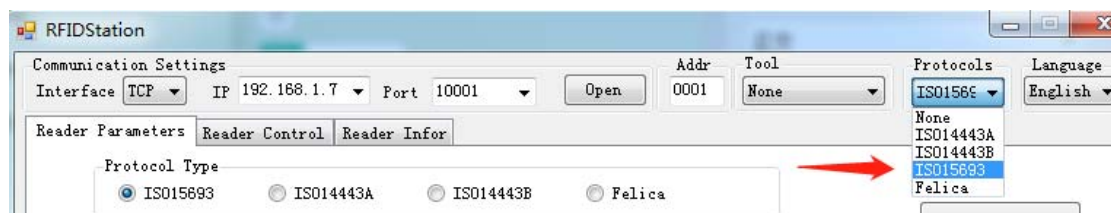
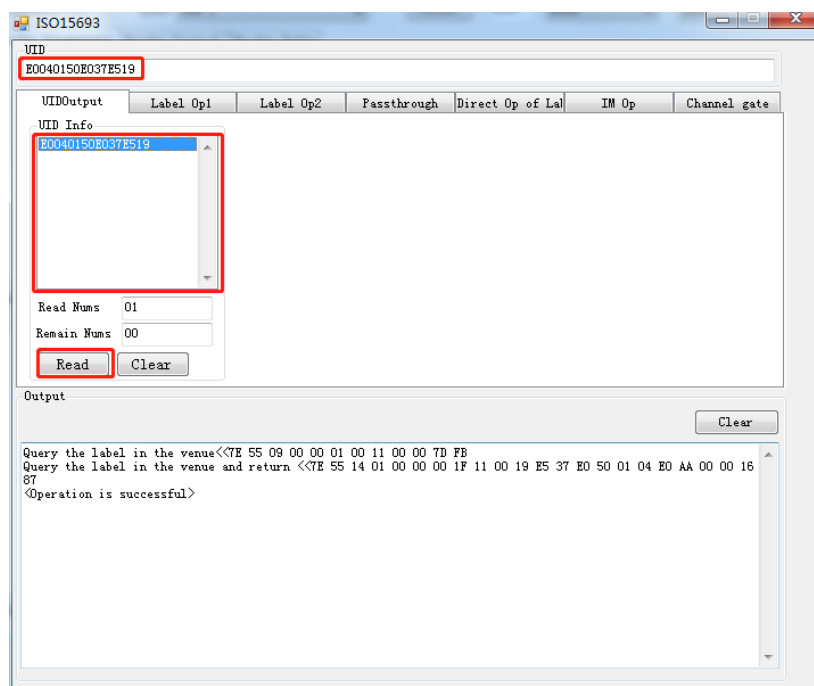

Figure 2.6 Label Operation selection
Figure 2.7 ISO15693 Label Operation window
Then select “ISO15693” protocol as shown in figure 2.6, and an “ISO15693” label operation window pops up as shown in figure 2.7.
- ① If ISO15693 label operation window shown in Figure 2.7 was closed unexpectedly during operation, click the label operation selection box shown in Figure 2.6 again.